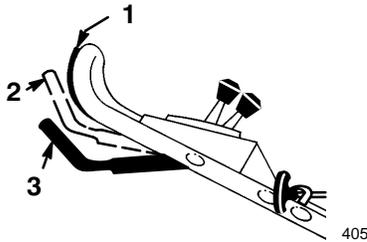

Figure 9
- Move control bar to the RUN/SHIFT position (Fig. 9).
- To engage the self-propel drive, squeeze the control bar against the handle in the RUN/DRIVE position (Fig. 9).
**Note:** Do not shift speeds while the control bar is squeezed against handle in the RUN/DRIVE position (Fig. 9); the transmission could be damaged. Move the control bar to the RUN/SHIFT position when changing ground speed.